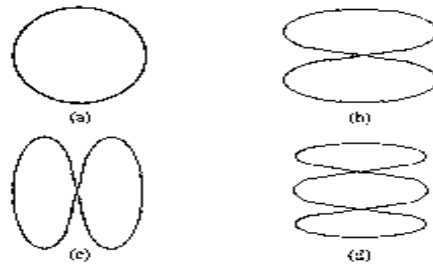

Figure no.-1
- b) Calculate horizontal to vertical frequency ratio for Lissajous figures as shown in figure no.1